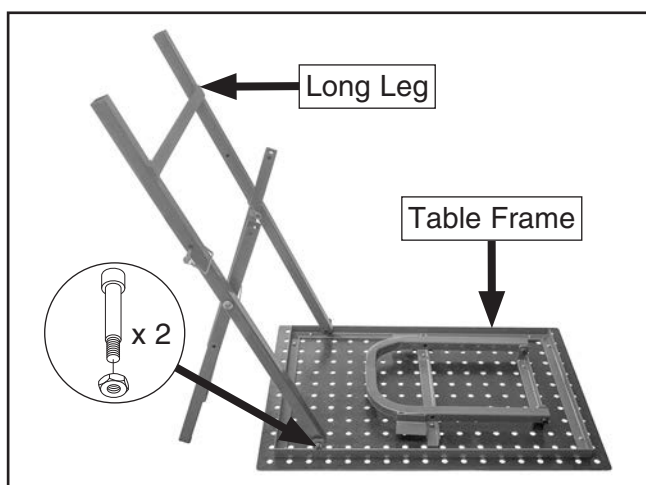

Figure 3. Long leg attached to table frame.
3. Attach long leg to table frame with (2) M10-1.5 x 18 shoulder screws and M10-1.5 hex nuts (see **Figure 3**).